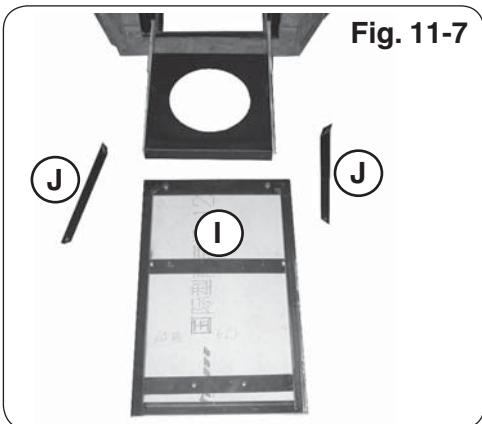

Fig. 11-7
6. Attach the two tank drawer supports (J) to the tank drawer base (Fig. 11-7 & 11-8).
7. Attach the tank drawer door (I) to the tank drawer supports (J) and the tank drawer base (Fig. 11-7 & 11-1).